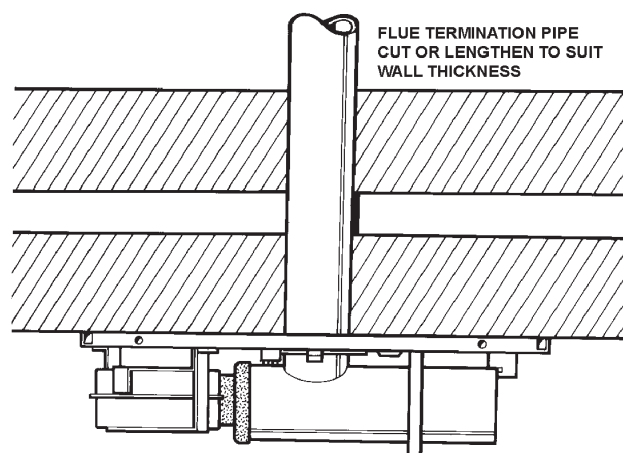

Fig. 17
6. The flue termination pipe may require to be shortened or lengthened depending on wall thickness. (See Fig. 17).